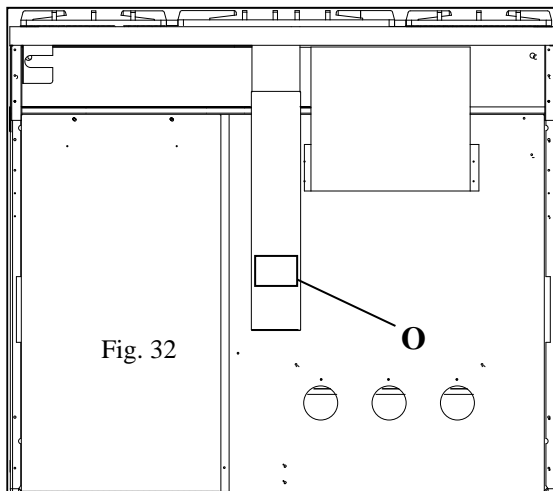
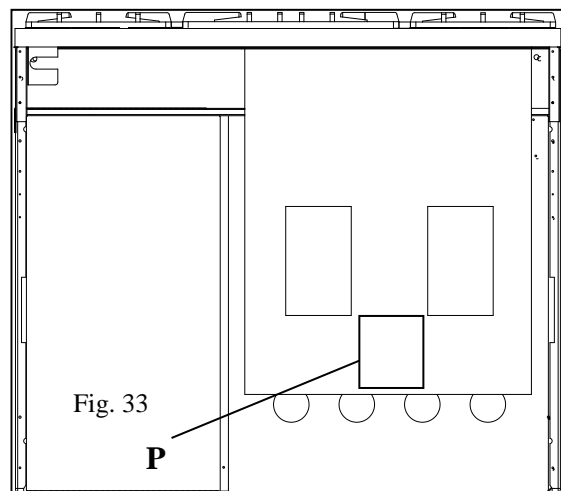

Fig. 32
Fig. 33
- Remove access door **O** (Figure.32, gas oven range) or **P** (Figures 33 and 34, gas and electric range).